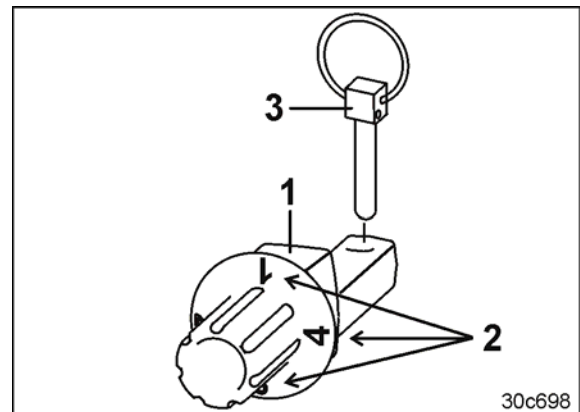

Fig. 83
Whenever you relocate the depth setting pin, secure it using a linch pin (Fig. 83/3).
7. Secure both positioning rods using linch pins (Fig. 83/3).
- The edges (Fig. 83/1) of the depth setting pins have different distances and are labelled with the numbers 1 to 4.
- The larger the number (Fig. 83/2) present at the carrying arm (Fig. 47/3).